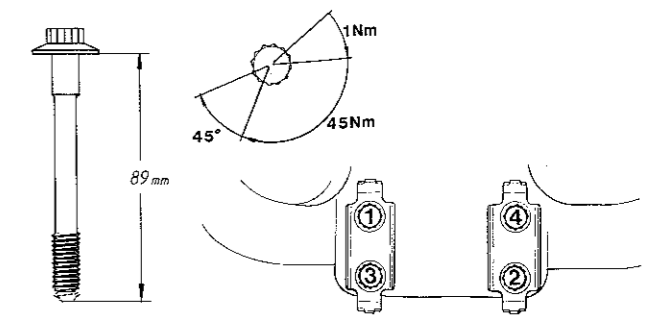

Fig. 3.50 Turbo bolt tightening sequence and stages. Renew bolts if they are longer than shown (Sec 39)
- 14 Tighten the bolts to the specified torque, following the sequence in Fig. 3.50. Make up a template for the final angular tightening (photo).